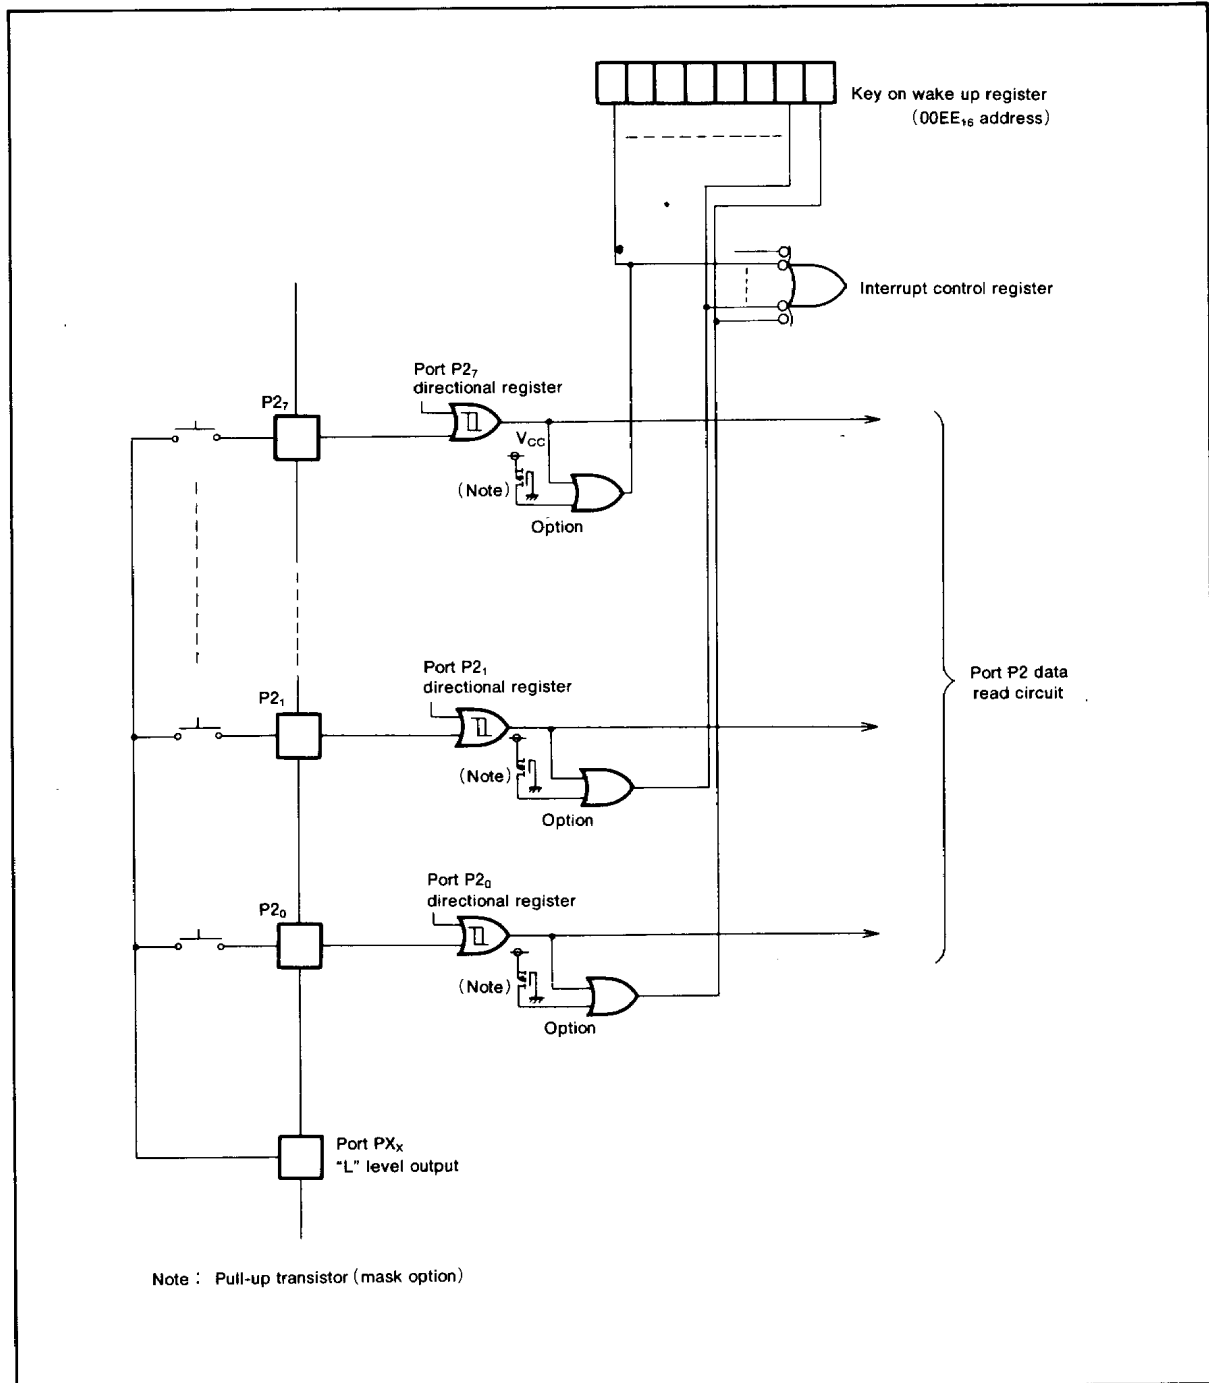

Fig. 19 Block diagram of port P2 and example of wired at used key on wake up
As shown in Figure 19, if the key matrix of active "L" to input port P2 is constructed, the microcomputer is returned to normal operating state by the key push. Refer to the section of interrupt how to use the key on wake up function. In order to enter the power down state generated by the STP or WIT instruction at the interrupt disable flag (I) is "0" and IC2 is "1", the input designated as key on wake up by option in port P2 must be all "H".